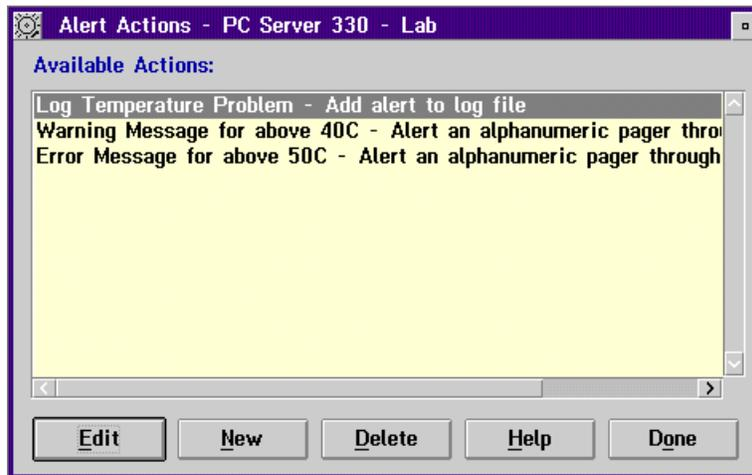

Figure 101. Alert Actions Defined
6. Add a new action of Log to Temperature problem and set the action as “Add alert to log file.” Figure 101 shows the three profiles now bound to there actions.